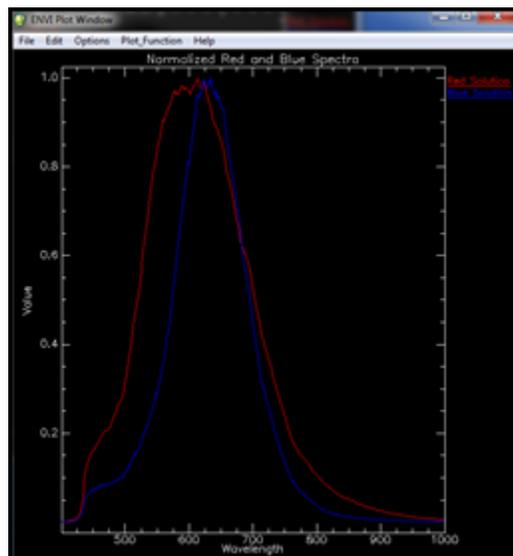

Figure 5.11j. Normalized Spectra
- Use Edit menu to change colors and labels (Figure 5.11j).